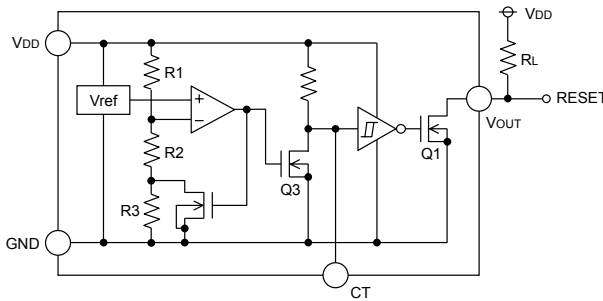
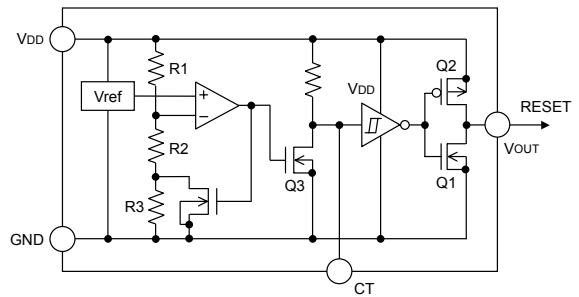

Fig.15 (BD52□□Type Internal Block Diagram)
Fig.16 (BD53□□Type Internal Block Diagram)
For both the open drain type (Fig. 15) and the CMOS output type (Fig. 16), the detection and release voltages are used as threshold voltages. When the voltage applied to the VDD pins reaches the applicable threshold voltage, the V_{OUT} terminal voltage switches from either “High” to “Low” or from “Low” to “High”. Because the BD52□□G/FVE series uses an open drain output type, it is possible to connect a pull-up resistor to VDD or another power supply [The output “High” voltage (V_{OUT}) in this case becomes VDD or the voltage of the other power supply].
Example: the following shows the relationship between the input voltage VDD, the CT Terminal Voltage V_{CT} and the output voltage V_{OUT} when the input power supply voltage VDD is made to sweep up and sweep down (The circuits are those in Figures 15 and 16).
CASE1: the power supply of the microcontroller (VDD2) differs from the power supply of the reset detection (VDD1). Use the open drain output type (BD52□□□G/FVE) attached a load resistance (RL) between the output and VDD2. (As shown Figure 15)
CASE2: the power supply of the microcontroller (VDD1) is same as the power supply of the reset detection (VDD1). Use CMOS output type (BD53□□□G/FVE) or open drain output type (BD52□□□G/FVE) attached a load resistance (RL) between the output and VDD1. (As shown Figure 16)